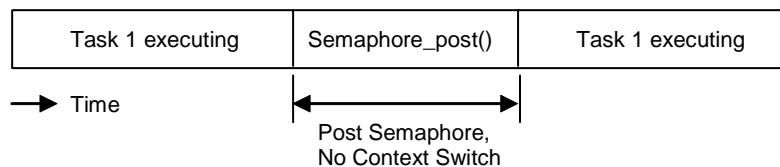

Figure C-13 Post Semaphore, No Context Switch
- ❑ **Post a semaphore, no context switch.** This is a measurement of a Semaphore_post() function call, when a lower-priority task is pending on the semaphore. In this case, Semaphore_post() readies the lower-priority task waiting for the semaphore and resumes execution of the original task, as shown in Figure C-13.